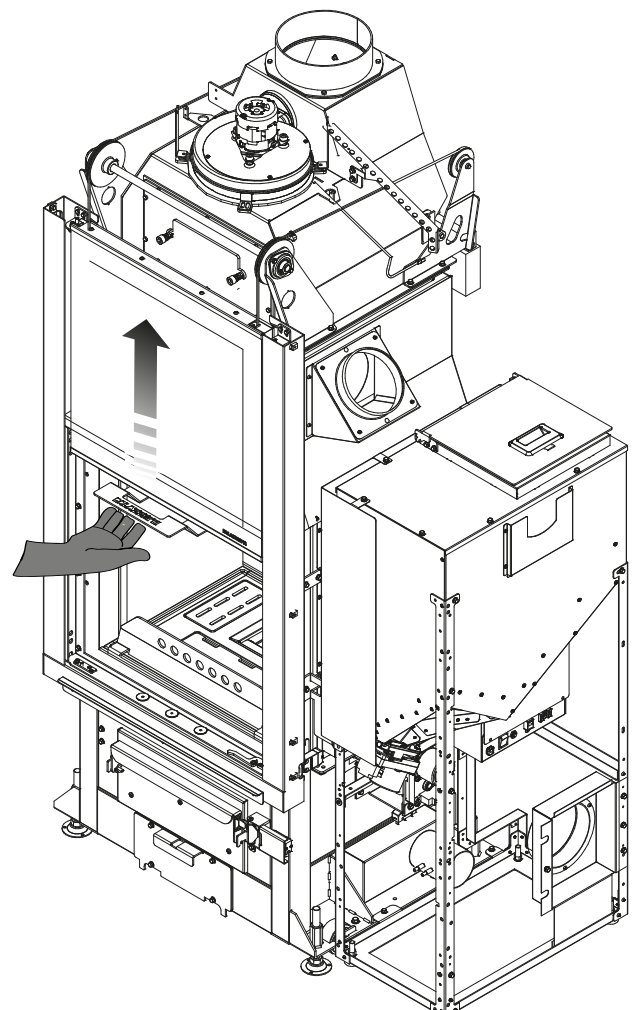

Fig. 3.2
1. use the disposition handle and to push upward (Fig. 3.2);